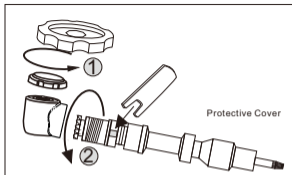

Fig. 1.3
2. Use the unloading tool to open the rear cover, and make shaft out from small head .as shown in figure 1-3.